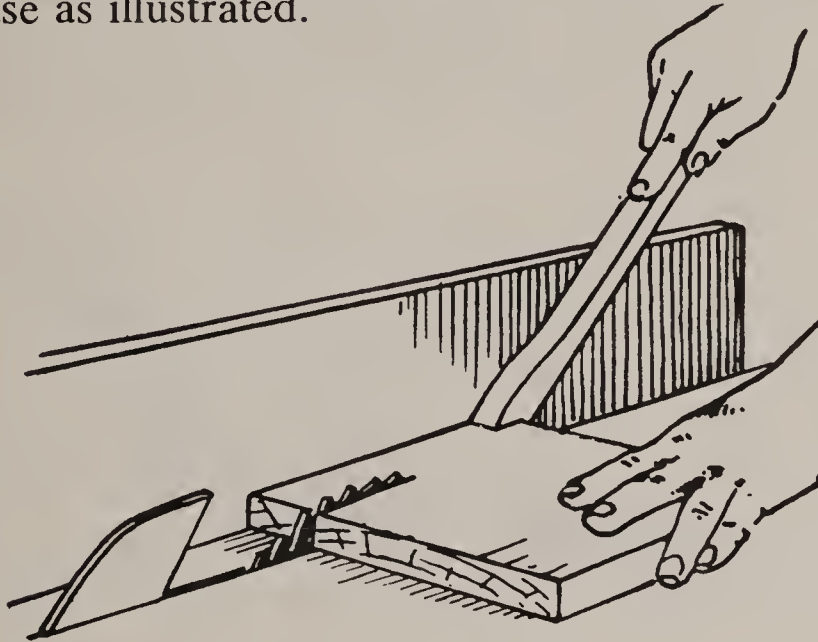

Fig. 5. Method of ripping stock to suitable width by employing a push stick as a safety device. Guard is removed for purposes of illustration.
6. When ripping stock into narrow strips, use a push stick such as is shown in Fig. 5. The guiding properties of the push stick will be considerably improved by the cutting of a notch in its base as illustrated.